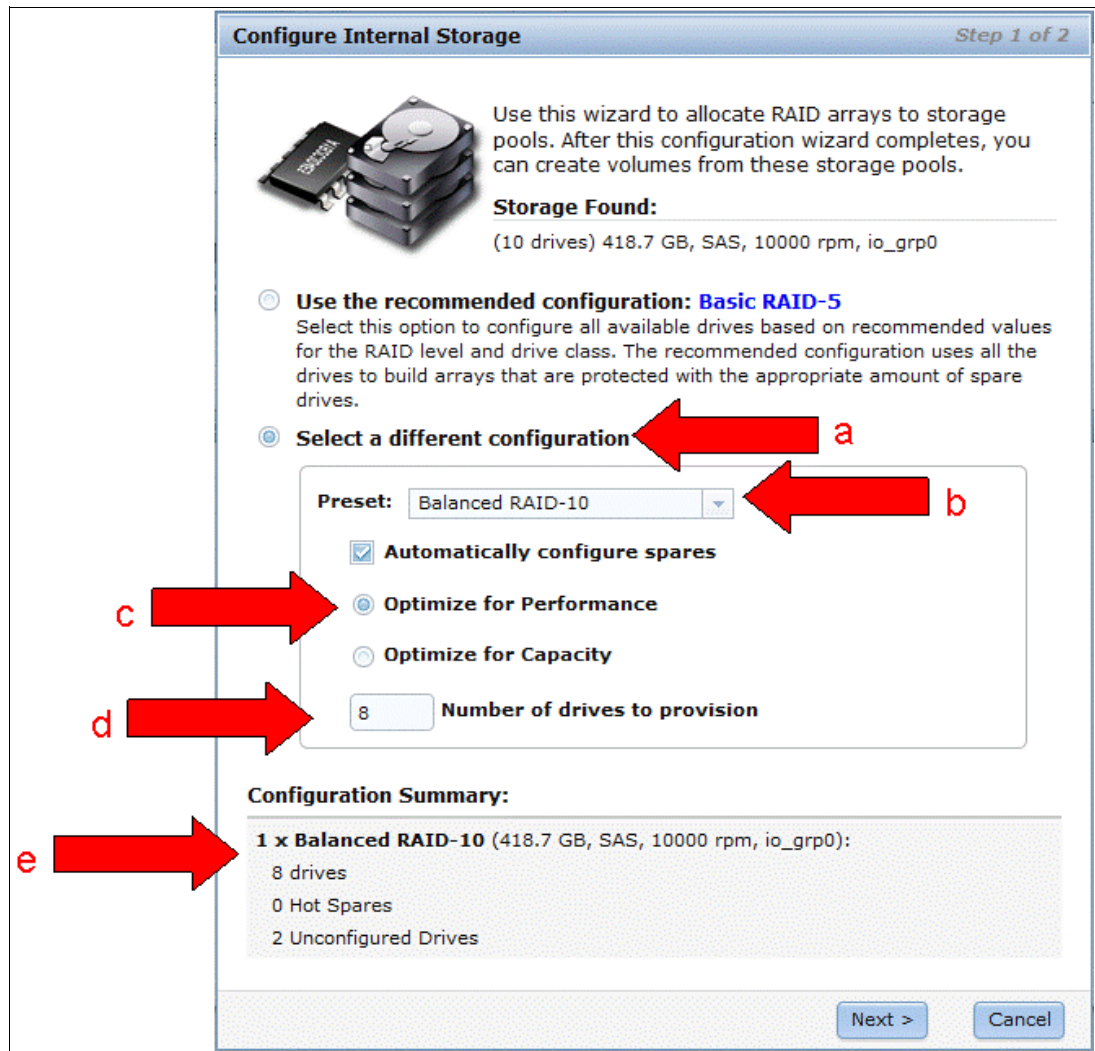

Figure 10-11 Configure Internal Storage window
4. The Configure Internal Storage window opens. The default settings are shown in the window. Proceed as shown in Figure 10-11 on page 175 and complete the following steps: